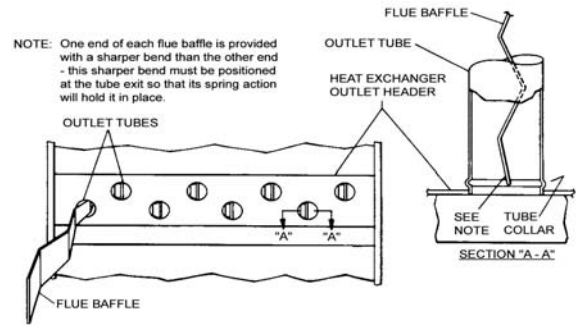

FIGURE 4 - TYPICAL FLUE BAFFLE INSTALLATION
5. On the inside of the flue collector box, remove the flue baffles from the tube interiors. Note the last bend of the baffle fits tightly against the tube forcing the end of the baffle to lock into the tube collar. This collar is formed when the tube is expanded into the end sheet. To remove, move the end of the baffle toward the center of the tube releasing the end of the baffle from the tube collar, then pull straight out of the tube. Refer to Figure 4.